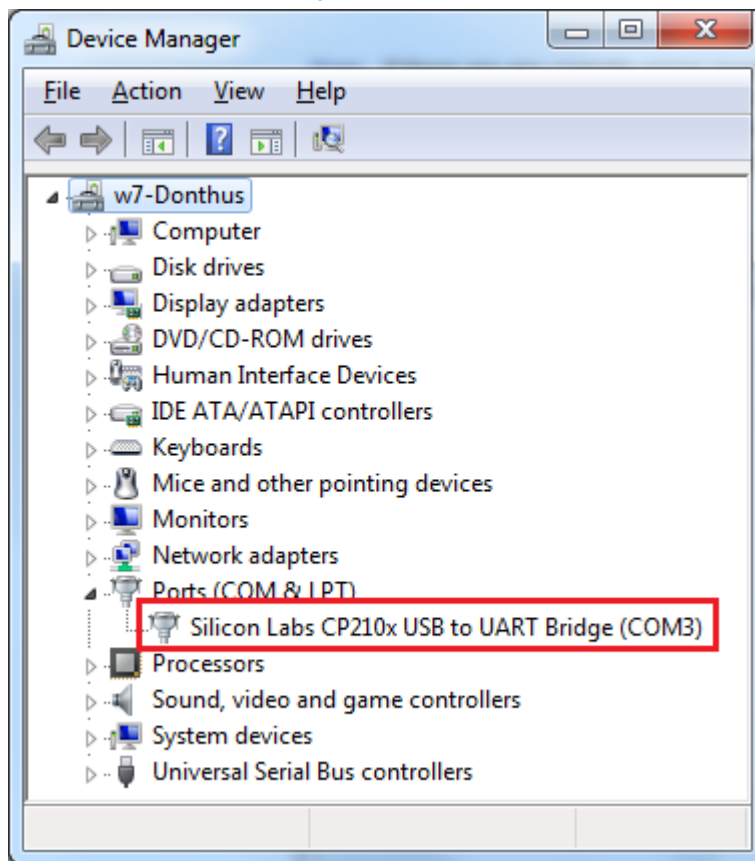

Figure 33 · Device Manager Listing Silicon Labs CP210x USB to UART Bridge Drivers
2. If the Silicon Labs CP210x USB to UART Bridge drivers are automatically detected (this can be verified in Device Manager), as shown in Figure 33 , go to the next step. If not, follow Step 8 – Installing Drivers for the USB to RS232 Bridge to install drivers for the USB to RS232 Bridge.
|                               | Modified Figure 33 · (SAR 36894).                                                              | 25   |